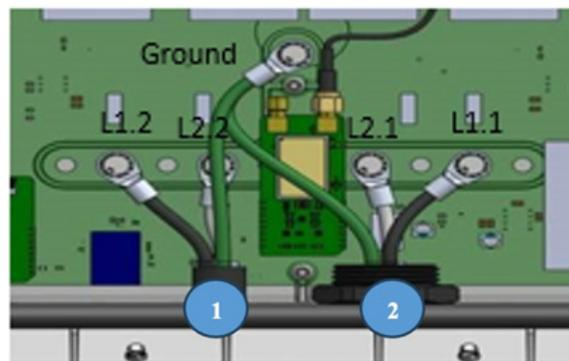

Figure 13: Install Power Leads for Dual Port Configuration
- a. Install power leads for dual port configurations as shown in Figure 13: